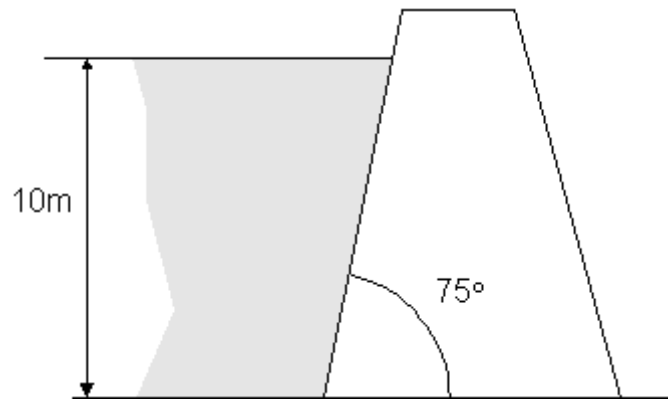

Figure 1
1.a A concrete dam has the cross-sectional profile shown in Figure 1. Calculate the magnitude, direction and position of action of the resultant force exerted by the water per unit width of dam?